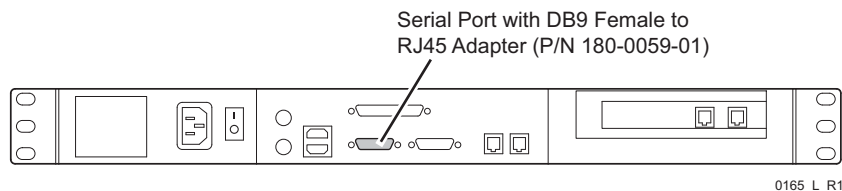
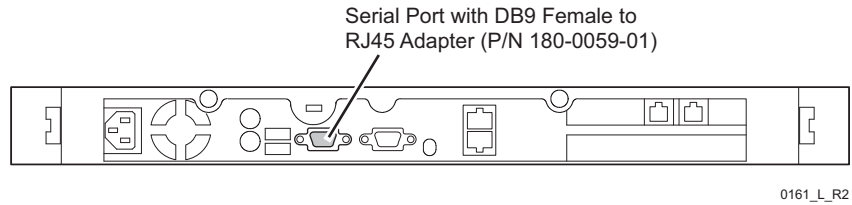
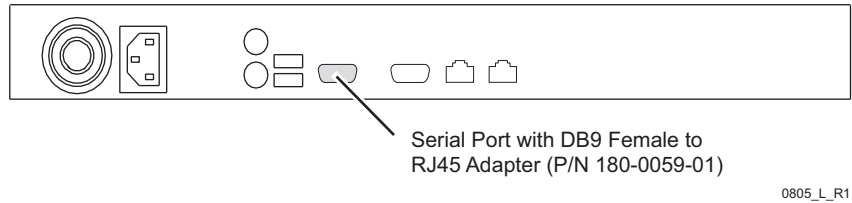

Figure 3-8. Connection Port for the Wintec Service Processor
Figure 3-9. Connection Port for the Dell 750 Service Processor
Figure 3-10. Connection Port for the Supermicro and Supermicro II Service Processor
- 1 Locate the service processor. Attach the DB9 female serial adapter (P/N 180-0055) that is at the free end of the blue Ethernet cable to the **Serial** port on your maintenance PC. A standard Category 5 Ethernet cable with the appropriate RJ-45 to DB9 adapters at each end should already be connected to the service processor's DB9 Serial port (Figure 3-8 and Figure 3-9 and Figure 3-10).